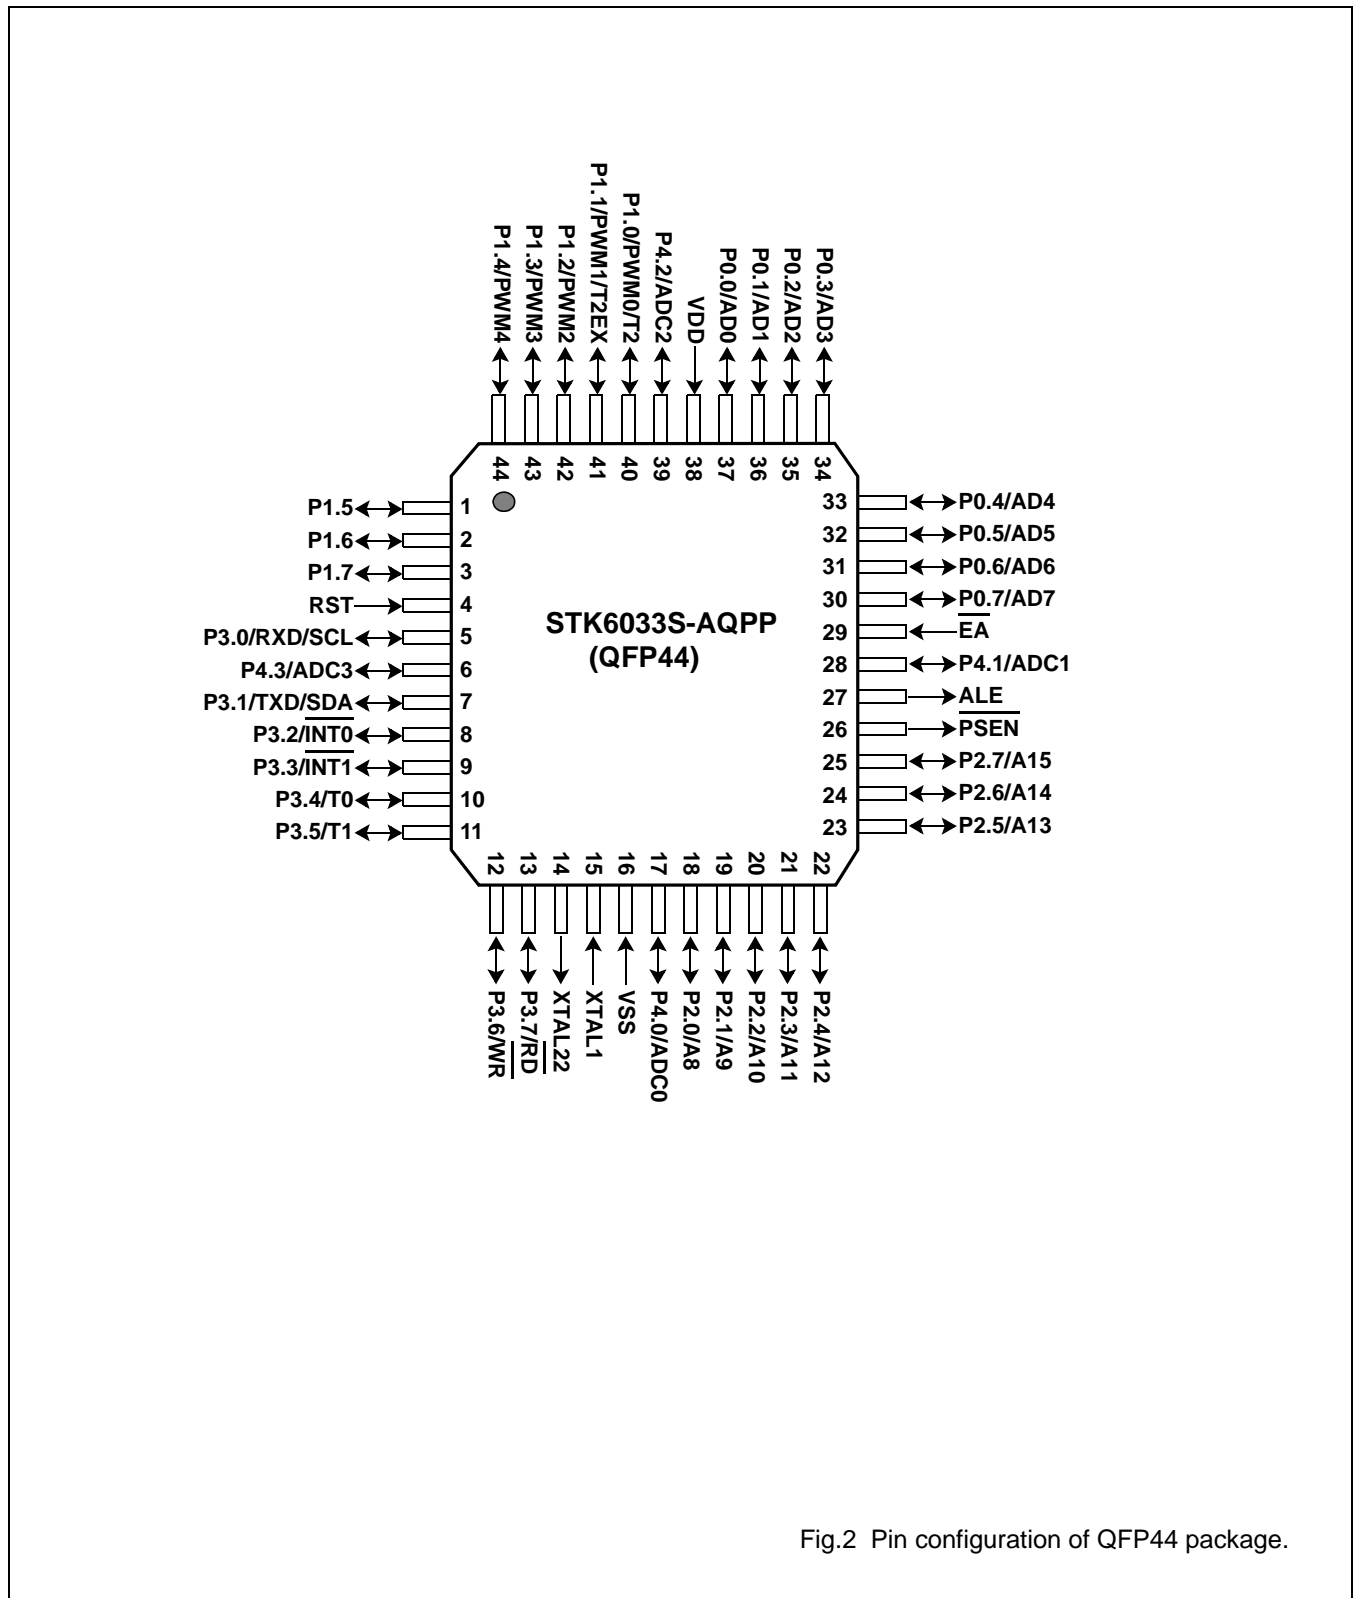

Fig.2 Pin configuration of QFP44 package.
- Figure 2** Pin configuration of QFP44 package.... Page 6